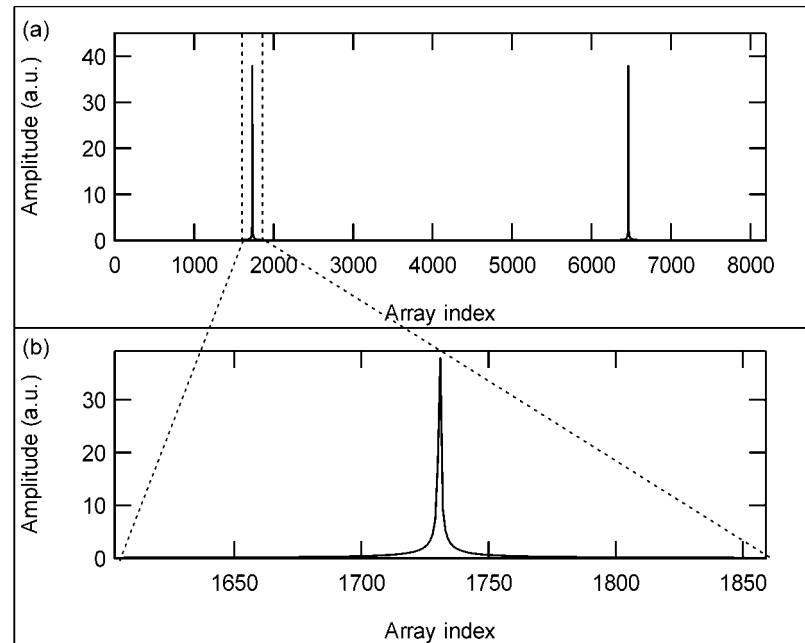

Figure 9-17. (a) The Fourier transform of interference fringes.
The Fourier transform of reflected optical intensity (I) for a short length of single-mode fiber as the DUT is plotted in Figure 9-17 (a). Figure 9-17 (b) shows the selected segment that contains the device information. Because the initial data was acquired as a function of optical frequency, ω , the transformed data is a function of time. For this reason, the transformed data is referred to as *time domain* data.
The length of the segment in Figure 9-17 (b) can be controlled by the user by simply scaling the X-axis (see “Scaling Plot Axes” on page 63). This length determines the sample resolution of the frequency domain data according to the Fourier transform relationship